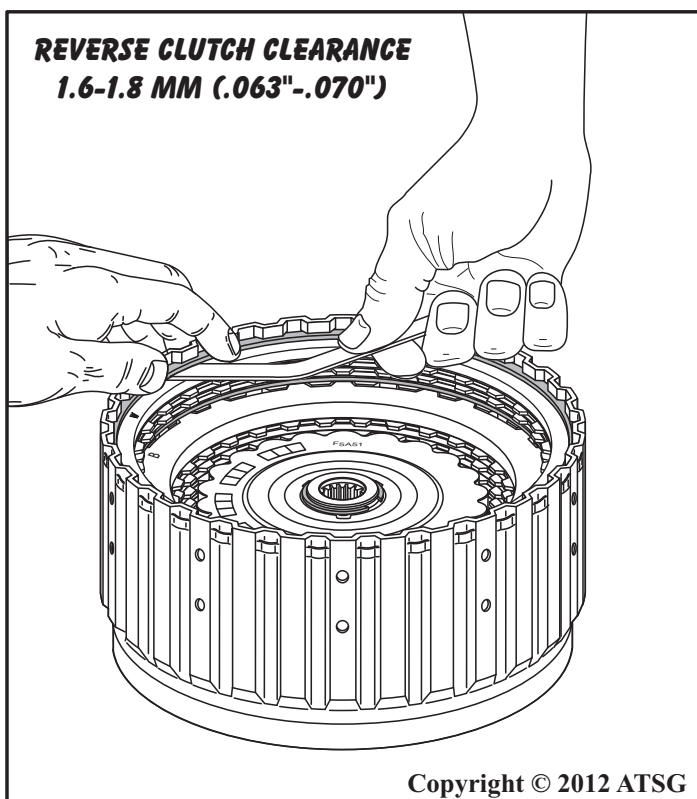

Figure 130
31. Compress the plates and measure with feeler gage between snap ring and backing plate, as shown in Figure 130.
Note: Proper compression can at times be achieved by hand, as shown in Figure 130, as most have only 2 friction plates.